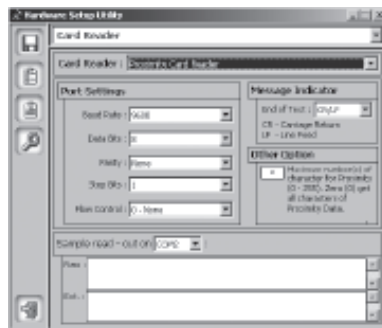

Figure 3
- Refer to Figure 3.
- Refer to Figure 3. This section allows the user to scan employee I.D. cards to view raw and extended data.